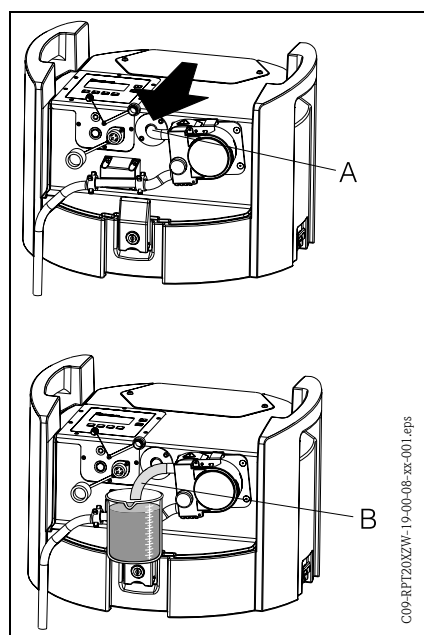

Fig. 12: Sample volume calibration
3. Remove the pump hose already installed from the hose feeder (→ Fig. 12, item A) and feed it into the measurement beaker (→ Fig. 12, item B).
13. Put the pump hose back into the hose feeder until the stop (→ Fig. 12, item A).